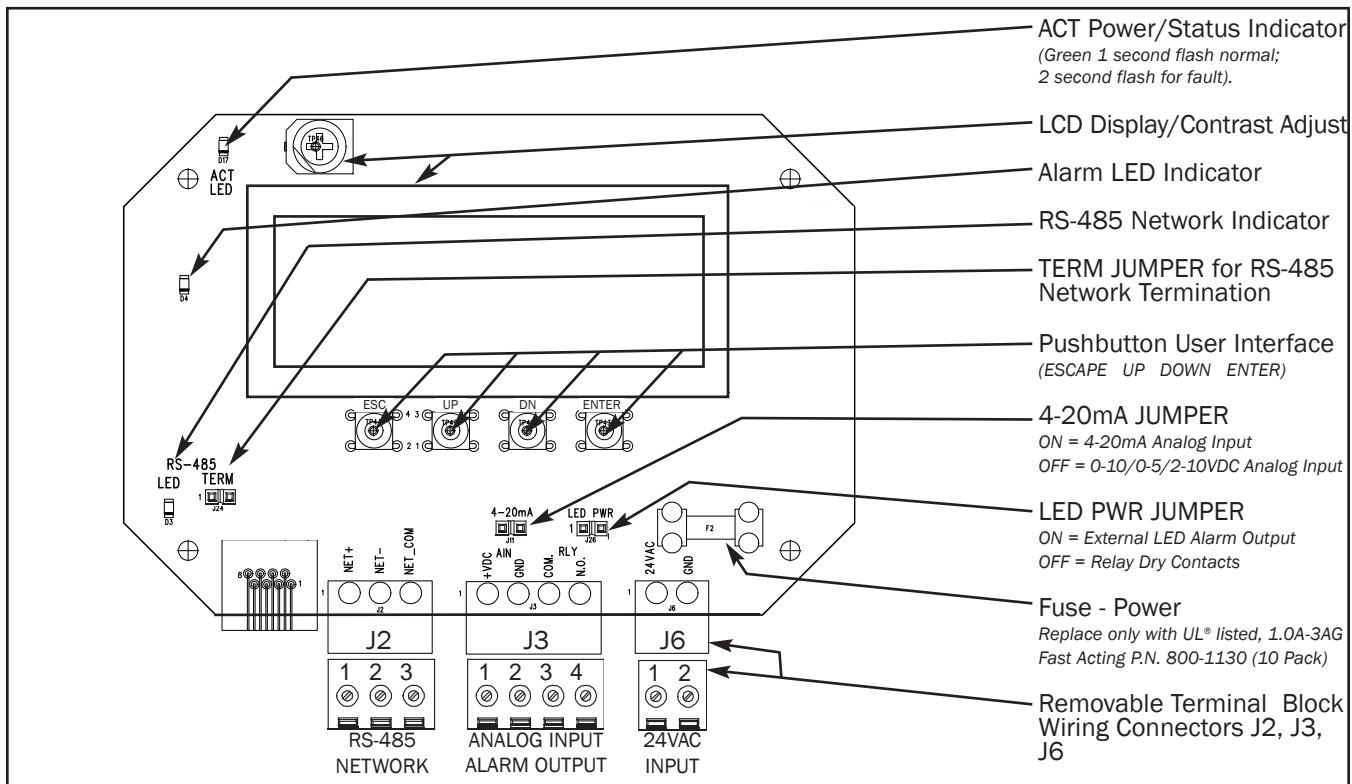

Figure 4. GA-200-N Main Circuit Board Detail
GA-200-N wiring consists of connecting 24VAC input power, BACnet MS/TP or Modbus interface, analog input and the optional alarm output at the GA-200-N. Refer to Figures 4 and 5 for additional detail. Following installation, review and perform any setup options required (other than the default values) as outlined in the GA-200-N Setup Procedure.
Wiring connections to the GA-200-N are accomplished at three removable screw-type terminal block connectors for J2, J3 and J6 at the bottom of the instrument as shown in Figure 4. The connectors are keyed to prevent improper hookup to the instrument.
2. Connect 24 VAC power to J6 terminal 1, and the 24V ground to J6 at terminal 2 as shown in Figures 4 and 5, observing the following wiring precautions.
The GA-200-N accepts an analog input signal that can be configured as voltage (0-10VDC, 0-5VDC, 2-10VDC @20mA max.) or as 4-20mA current using the 4-20mA jumper on the main circuit board as shown in Figure 4. The 24VAC return ground connection is shared with the analog input signal ground (GND). If the analog input must be isolated from the 24VAC return, a dedicated isolation transformer must be provided to power the GA-200-N.
2. Connect the analog input signal wire at J3-1, and the signal ground at J3-2 as shown in Figures 4 and 5 while observing the previous wiring precautions.
1. Remove the four cover retaining screws at each corner of the transmitter cover in order to gain access to the transmitter Wiring Terminal Block on the main circuit board shown in Figure 4.
The GA-200-N alarm output can be configured as relay dry contacts, or as direct drive (15 mA typical) for an external LED indicator. The alarm output type is set using the LED PWR jumper on the GA-200-N main circuit board as shown in Figure 4. With the LED PWR jumper on, alarm output is set to provide an external LED drive (15 mA typical) at J3 terminal 4, with ground return at J6 terminal 2. With the LED PWR jumper OFF, alarm output is set to provide dry relay contacts between J3 terminals 3 and 4 (contacts rated at 30VDC/24VAC 3 amps maximum). The alarm can be set as normally open (contact close on alarm) or normally closed (contacts open on alarm) in the Setup menu.
The GA-200-N includes an RS-485 communications interface at J2. Network termination for the GA-200-N is selected using the Termination (TERM) jumper on the GA-200-N main circuit board as shown in Figure 4. Termination options are provided for an end of the network or segment, or for any other point on the network or segment.
1. Remove the four cover retaining screws at each corner of the transmitter cover in order to gain access to the transmitter TERM jumper on the main circuit board shown in Figure 4.